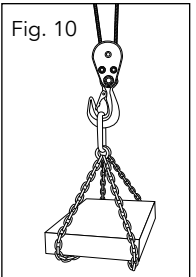

Fig. 10
11. Ensure that the load is correctly secured to the hook (8) or, if you are using the double fall configuration, the additional hook (16) and always maintain a safe distance from the load and the steel cable (6) (Fig. 10).